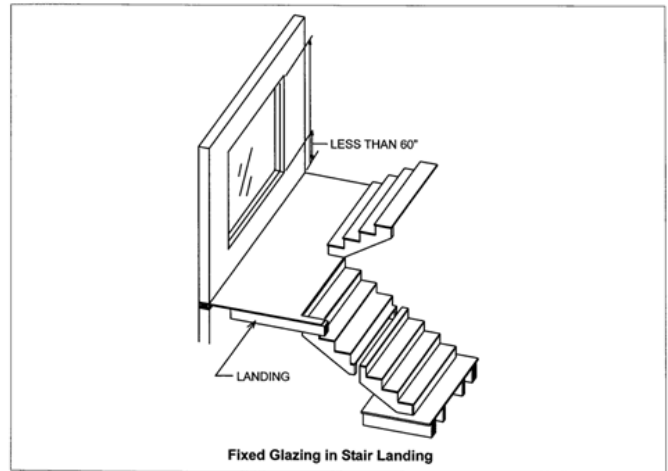

Figure 14-13
8. [Figure 14-13, Fixed Glazing in Stair Landing, 2003 IRC Performing Residential Building Inspections, this handout pg. 4 of 5.](#)